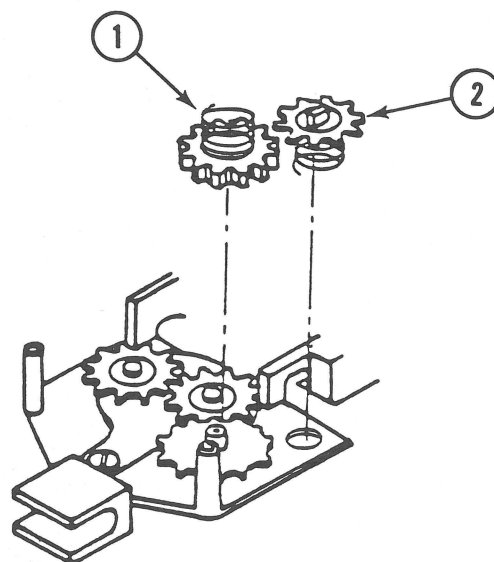

FIGURE 14
6. Replace the ratchet spring and ratchet gear (Figure 14, #1).
7. Replace the ribbon spring and cartridge drive gear (Figure 14, #2).